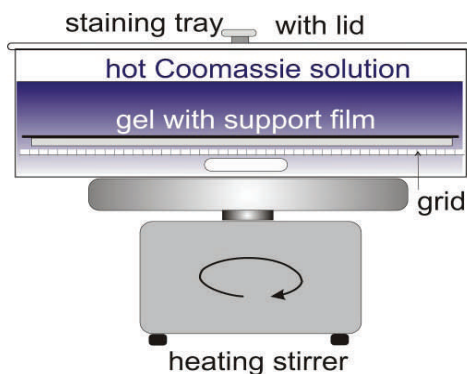
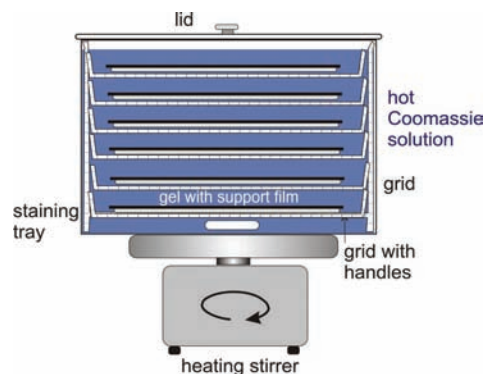

Fig. 8.4: Set-up for hot Coomassie staining.
Fig. 8.5: Set-up for hot Coomassie staining.
1. Heat staining solution to 40°C in steel tray (Fig. 8.4) or MultiStainer for multiple gels (Fig. 8.5) with grid while stirring